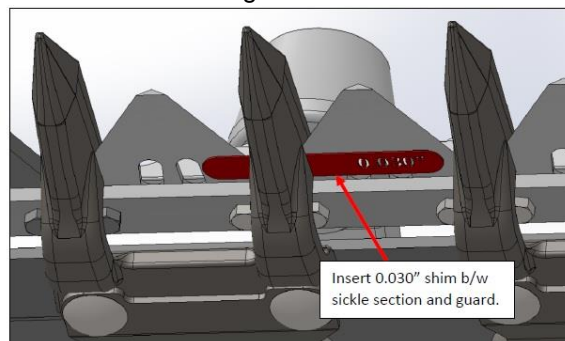

Figure 137
9. Start with the LH knife and insert a 0.030" shim between the center guard (right in front of LH knife head) and the bottom of the sickle section. We install this shim in this area to make sure the LH knife does not have too much down pressure onto the guard Figure 137